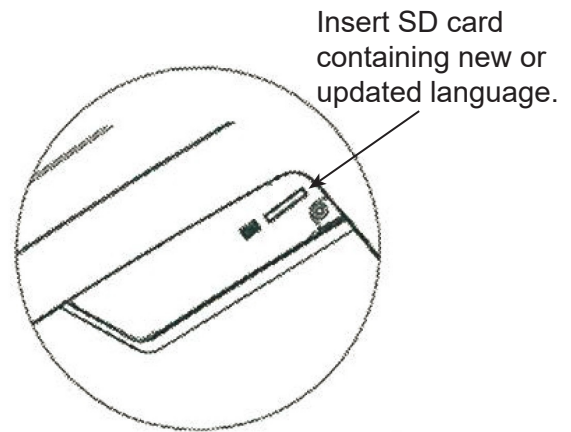

Figure 1
3. Insert the SD card containing the language data into the side panel on the machine. See Figure 1.